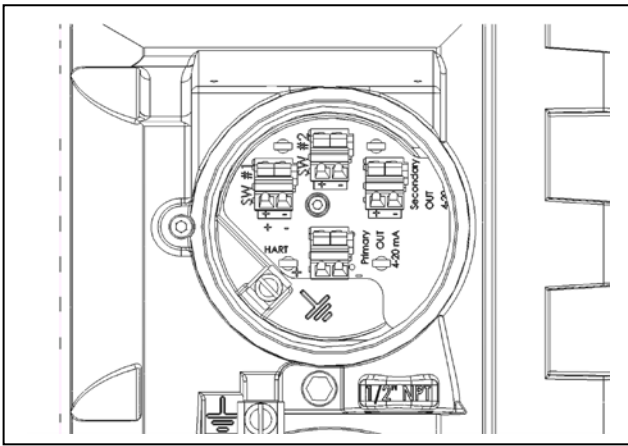

Figure 8 – Terminal board
The purpose of this section is to describe the various instrument sub-assemblies to facilitate their use and maintenance. See figures 8 to 13.
Both the terminal strip and the ground terminal are located in connection compartment (Figures 8 and 9). Connections are done with four flat handle terminal blocks (90) or a terminal board connector (90A) (Japan) and included ground connection (96). Follow strip rules to prevent from any short circuit and comply with local and national standards for hazardous area installations.